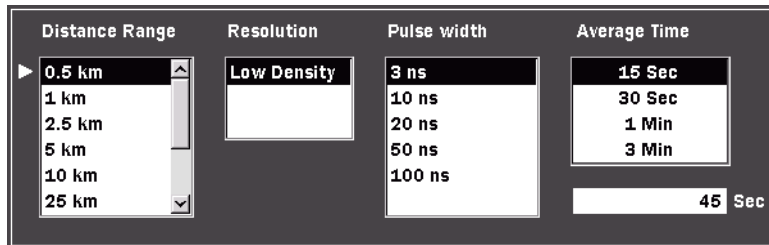

Figure 5-20: Range/Resolution/Pulse Width/Average Time Dialog
1. Press **Test Parameters (f4)**, the Distance Range, Resolution Pulse width, and Average Time dialog appears (see Figure 5-20 on page 5-54).